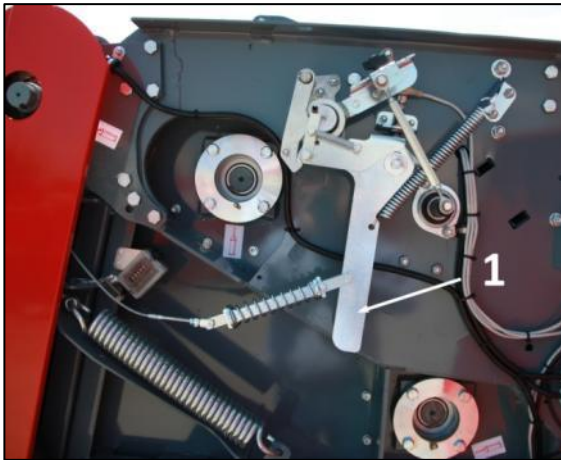

Fig. 19 Rearmament knife
4.9.1 REARMEMENT OF KNIFE NET BINDING (Fig. 19)